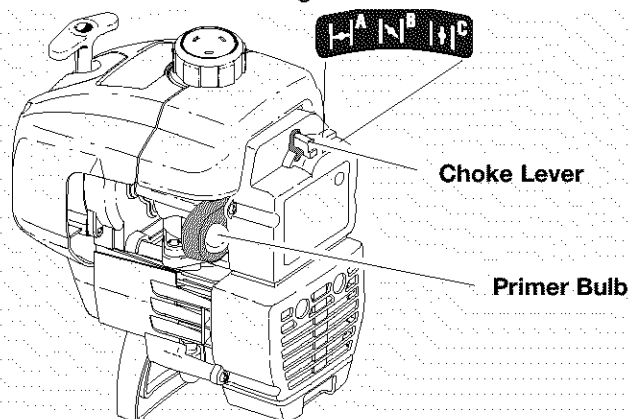

Fig. 8
2. Fully press and release primer bulb slowly 5 to 7 times. **Fuel should be visible in the bulb** (Fig. 8). If fuel hasn't entered the bulb, press three (3) more times, or until it does.
3. Move choke lever (Fig. 8) to **CHOKE (I A)**.
NOTE: If the engine floods while trying to start, place the choke lever in the **RUN (C) I C** position (Fig. 8). Squeeze the throttle control. Pull the starter rope briskly. The engine should start within three (3) to eight (8) pulls.